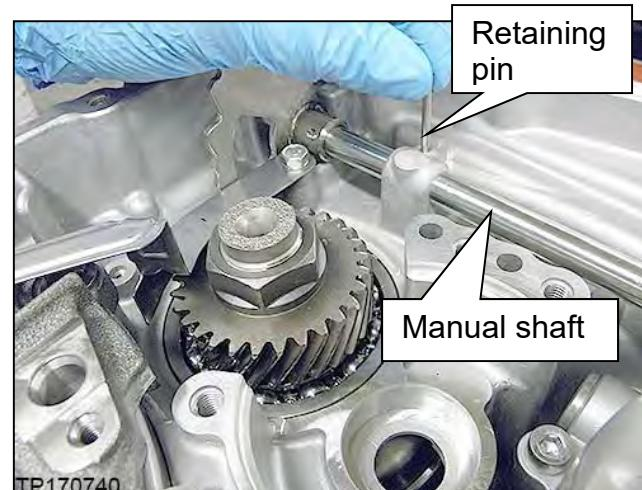

Figure 163
133. Install the original retaining pin as shown in Figure 163.
- Align the manual shaft groove (Figure 164) to allow the retaining pin (Figure 163) to go through completely.